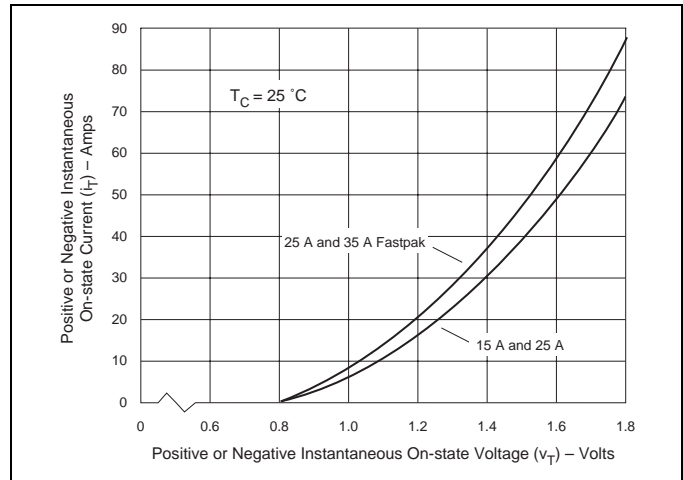
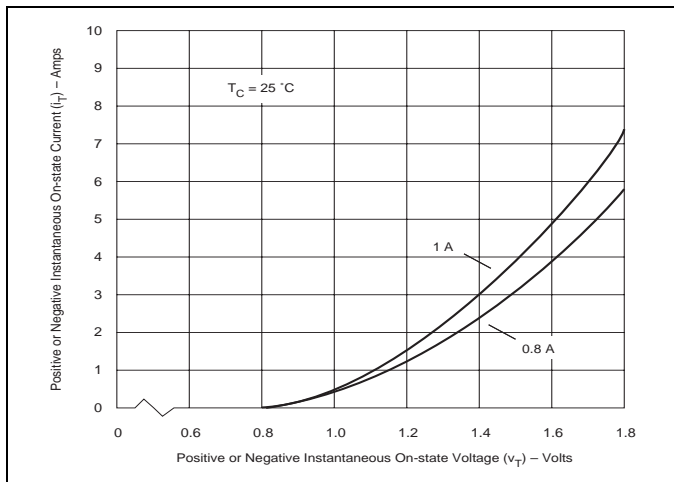

Figure E2.10 On-state Current versus On-state Voltage (Typical) (15 A and 25 A)
Figure E2.8 On-state Current versus On-state Voltage (Typical) (0.8 A and 1 A)
- See Figure E2.8 through Figure E2.10 for i_T versus v_T .